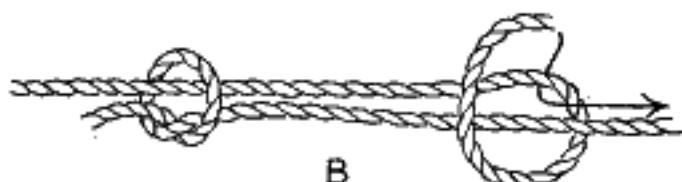

FIG. 324.—The overhand knot.
**385. The overhand knot** (Fig. 324) is used sometimes as an end knot in a rope but more frequently as a part of other knots and hitches.